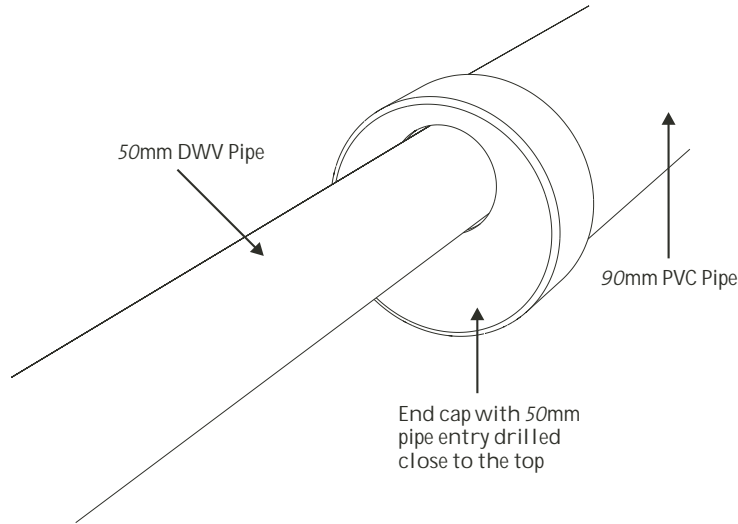

Figure 9
One of the 90mm pipe end caps has a suitable hole be drilled through it for connecting the 50mm DWV distribution pipe (see figure 9).
- Joins between the 50mm DWV pipe, Greywater Diverta™, Y junctions and other couplings are permanently glued together using PVC cement. Connection of the 50mm DWV pipe to the 90mm irrigation trench pipe end cap is inserted loosely and not glued (see Figure 9).
4. Layout the distribution pipe, Y junctions and trench pipe on the ground surface ensuring the distribution pipe can connect into the end of the irrigation trench pipe (see figure 9.) The Y junctions must be located on the distribution so that the 50mm inflow distribution pipe has no bends or elbows located within 500mm of it connecting into the Y junction, as bends can cause turbulence in the flow and effect the Y junction's ability to achieve an equal split of the water (see figure 5).
9. Connect each of the 50mm distribution pipe ends into their intended 90mm irrigation trench pipe end cap ensuring the 50mm pipe is inserted into the drilled end cap so grey water will enter the upper level of the 90mm pipe (see Figure 9).
- Connect each of the 50mm distribution pipe ends into their intended 90mm irrigation trench pipe end cap ensuring the 50mm pipe is inserted into the drilled end cap so grey water will enter the upper level of the 90mm pipe (see Figure 9).